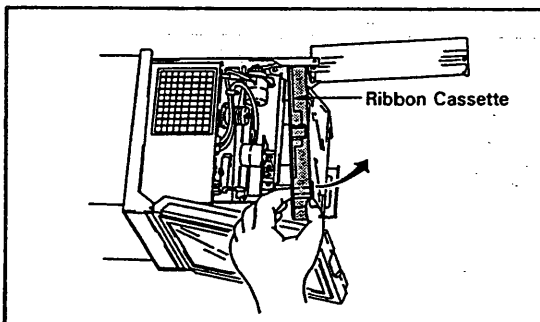

Figure 5-10.
- (4) Hold the back section of the carriage assembly and move the carriage assembly to the right.
- (5) Hold the upper left hand corner of the ribbon cassette and take it out separating it from the recorder internal assembly (see Figure 5-10).